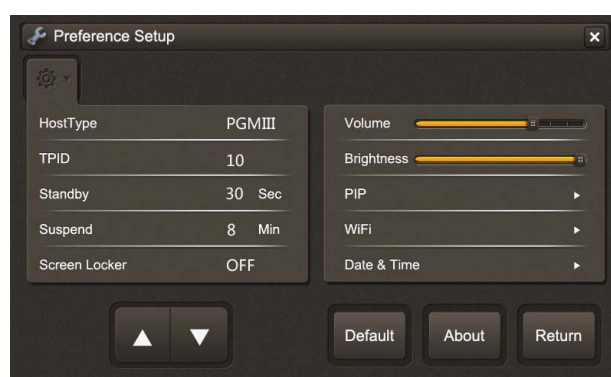

Figure 2-4
1.Set the main interface as shown in figure 2-4: